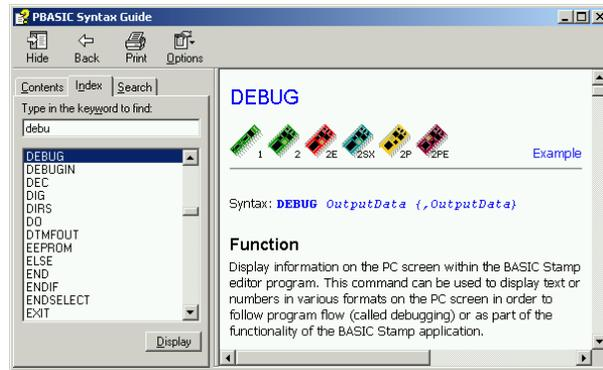

Figure 1-46
- √ Type **DEBUG** into the field labeled *Type in the keyword to find:* (shown in Figure 1-46).